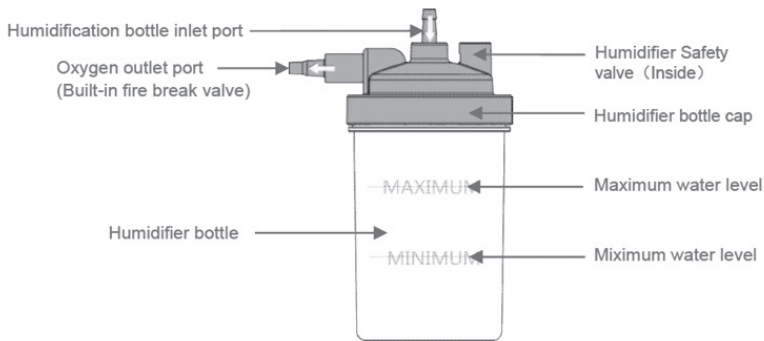

Figure 5
- a. Put cold boiled water or distilled water in the humidifier bottle. The water level must be not more or less than the maximum/minimum water level indicator line of the bottle, and the bottle cap should be tightened fully (Refer to Figure 5*).